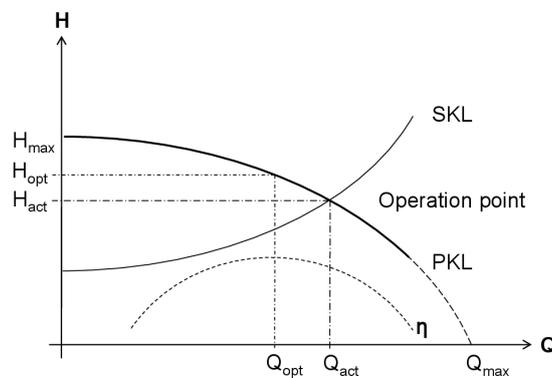

Abbildung 1: Pump characteristic curve (PKL) and system characteristic curve (SKL)
Each pump has its pump curve (figure 1) that shows the relationship of pressure head (H) and pump outflow (Q). With the system curve the optimal operation point can be determined. The pump capacity (Förderleistung) is calculated by  $P_Q = \rho \cdot g \cdot Q \cdot H$  and its power demand is defined by  $P_B = P_Q / \eta$  ( $\rho$ : density,  $g$ : gravity force,  $\eta$ : efficiency grade).